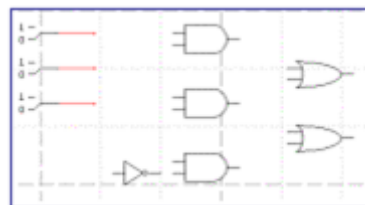

Figure 10-7
Your design should now resemble the schematic in Figure 10-7
- Drag the mouse a half-inch or so to the right and release the button. A red wire should now be attached to the switch, ending in the middle of nowhere. See Figure 10-7.